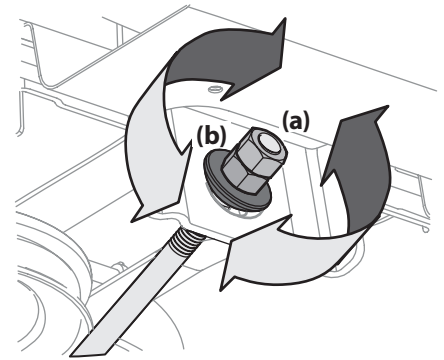

Figure 4-9
5. To raise the front of the deck, remove the end cap, loosen the outer nut (a) then tighten (thread inward) the inner nut (b) against the front hanger bracket. See Figure 4-9. When proper adjustment is achieved, re-tighten the outer nut (a) and replace the end cap.
6. To lower the front of the deck, remove the end cap, loosen the outer nut (a) then loosen (thread outward) the inner nut (b), away from the front hanger bracket. See Figure 4-9. When proper adjustment is achieved, re-tighten the outer nut (a) and replace the end cap.